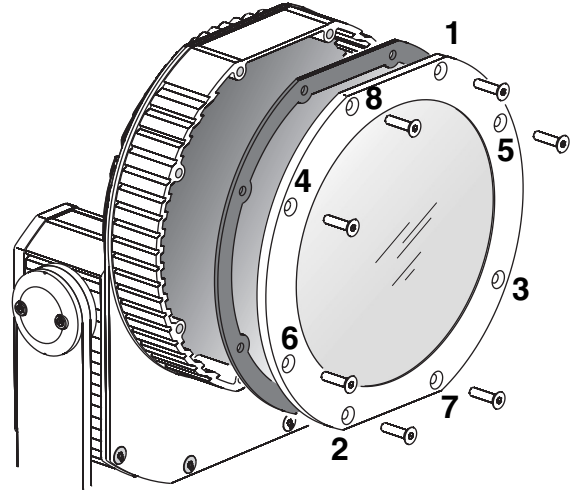

Figure 21: Front cover screws and seal
2. See Figure 21. Remove the front cover screws and front cover with its seal.
- d. Cross-tighten the screws evenly in a diagonal pattern, increasing torque gradually in stages to a maximum torque of 8 Nm (5.9 ft.-lbs.). See example tightening order in Figure 21. Do not over-tighten, or the front glass may break.